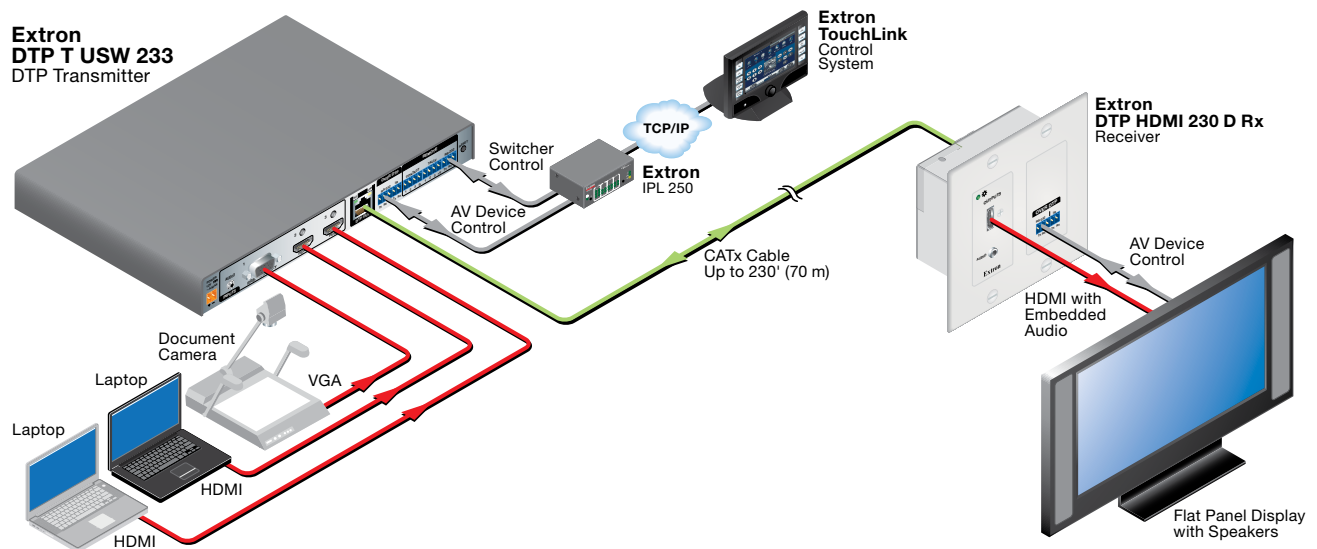

Figure 1. Typical Switching Transmitter Application
The DTP T USW 233 is a 3 input VGA and HDMI switcher with a DTP transmitter output (see figure 1). It switches among one analog VGA and two HDMI inputs, including embedded audio (or DVI video with the appropriate adapters). The switcher converts the selected input, an optional analog audio input, and bidirectional RS-232 and infrared (IR) control signals to a proprietary digital signal. It outputs the signal to a compatible DTP DVI 230 Rx or DTP HDMI 230 Rx receiver. The switcher and receiver extend the usable distance of video, audio, and control signals up to 230 feet (70 m) over a single twisted pair cable.